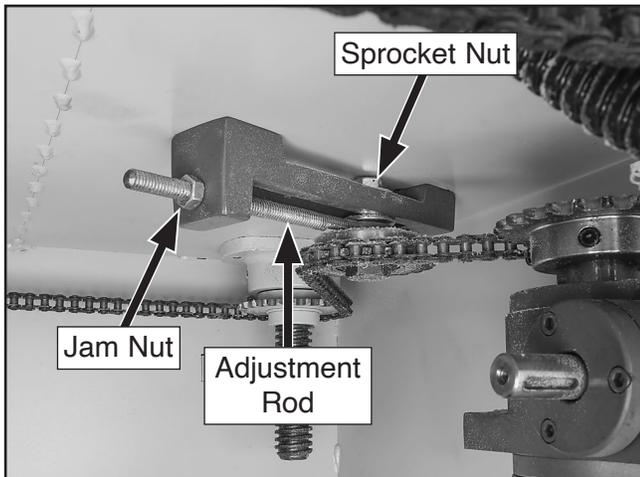

Figure 97. Table elevation chain tensioner components.
9. On table elevation chain tensioner, loosen sprocket nut on sprocket wheel shaft, and jam nut (see **Figure 97**).
10. Push sprocket adjustment rod (see **Figure 97**) away from table elevation motor to loosen chain tension.